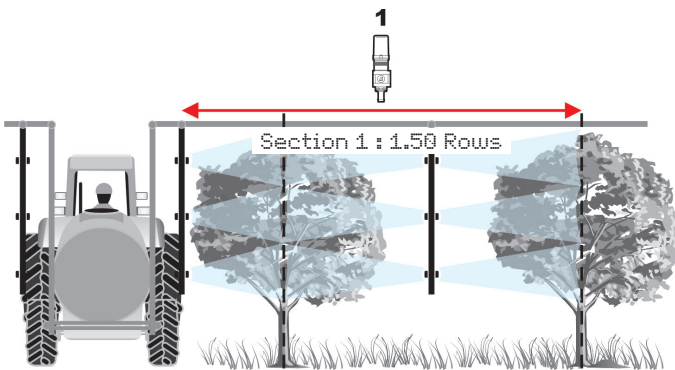

Fig. 35
- section 1 sprays on one complete row and on one side of the next row (Fig. 35 - set value 1.50 Rows);